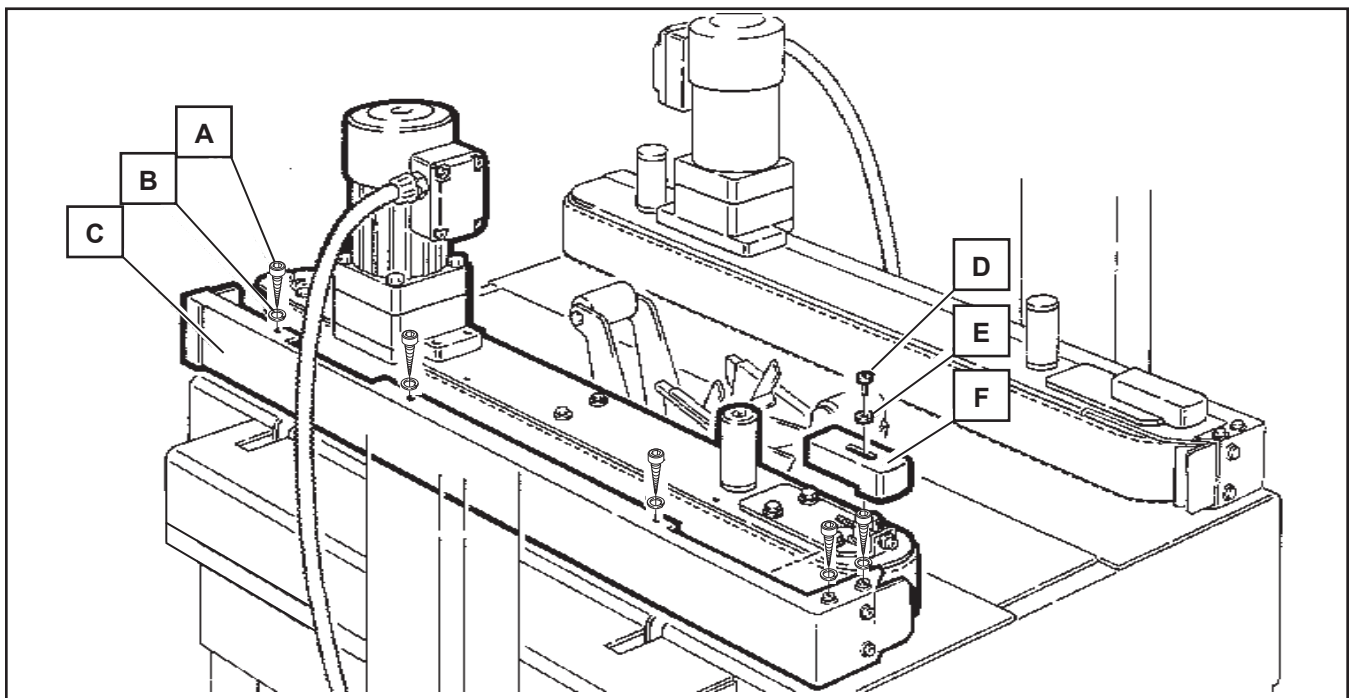
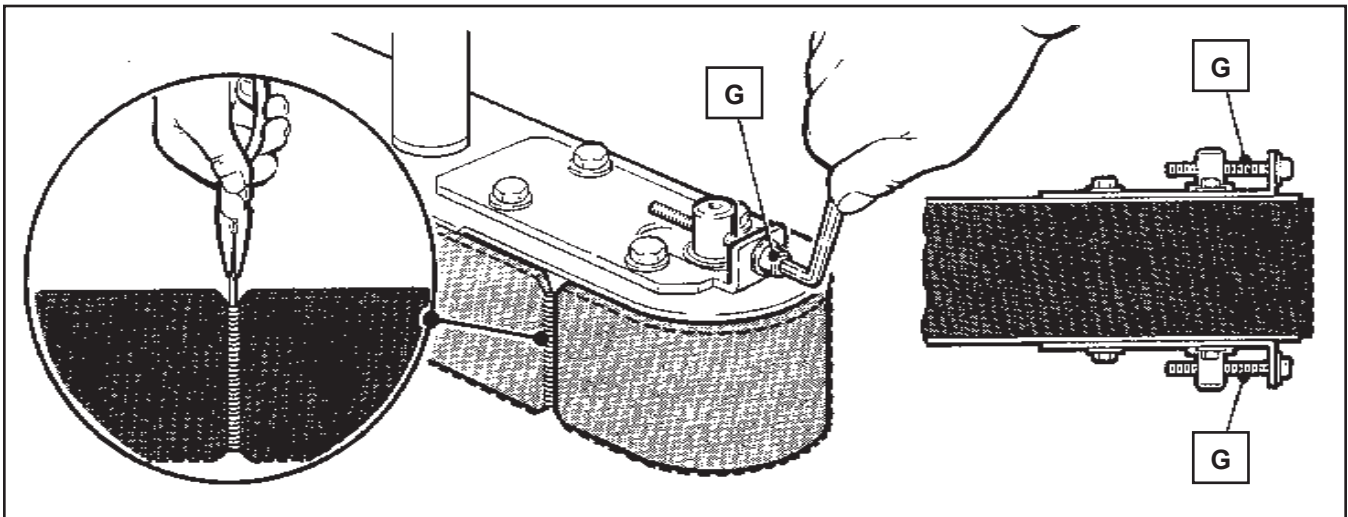

Figure 13-1 Box Drive Belt (Left Side View – Infeed End)
Figure 13-2 Box Drive Assembly, Infeed End
2. Remove and retain the five (5) screws (A), five (5) washers (B) and side cover (C) - **See Figure 13-1.**
3. Remove and retain the screw (D), washer (E) and belt tensioner cover (F).
4. Turn belt adjustment screws (G) counterclockwise on both the upper and lower tension assemblies until belt is loose - **See Figure 13-2.**
7. To set drive belt tension, turn adjustment screws (G) equally on both the upper and lower tension assemblies. Turn the screws clockwise to increase tension or counterclockwise to decrease tension - **See Figure 13-2.**
8. Reverse procedures in Steps 1-3 (**Figure 13-1**) to reassemble the drive belt assembly.